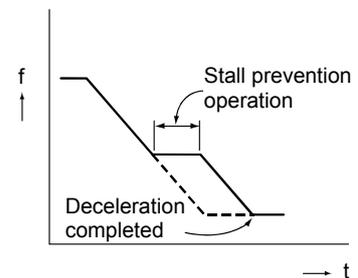

Fig. 2.40 Stall prevention operation during deceleration
- (1) When the inverter start signal (STF/STR) is turned off, the motor decelerates as shown in Fig. 2.40. When the output frequency goes down to the DC injection brake operation frequency or lower, the DC voltage is applied to the motor, and then the motor stops. This is called DC injection brake.